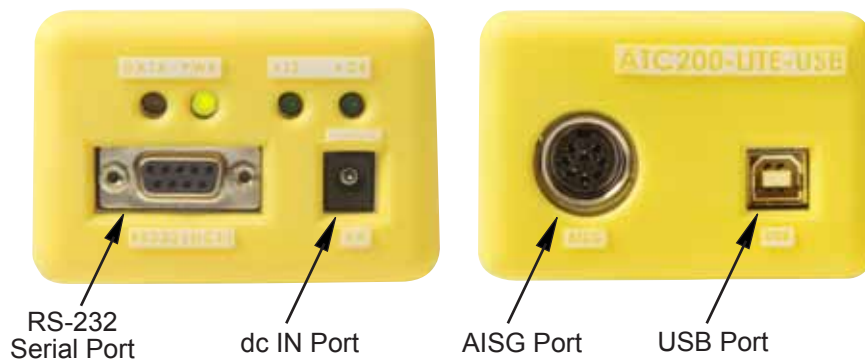

Figure 3. ATC200-LITE-USB Controller End Panels.
- LEDs on the controller are used to indicate power and data communication. The ATC200-LITE-USB controller is equipped with a USB port, as well as a RS-232 serial port for flexibility in connecting to a PC. See Figure 3.